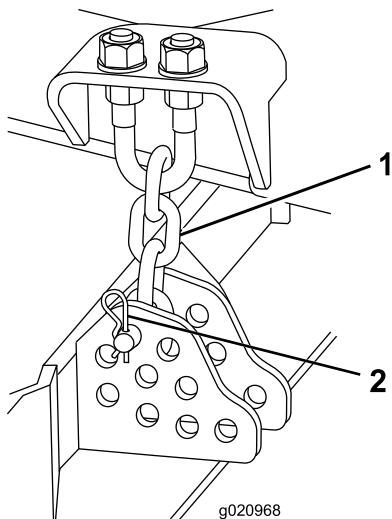

Figure 17
- Remove the hairpin cotter and clevis pin securing the height-of-cut chains to the rear of the mower deck (Figure 17).